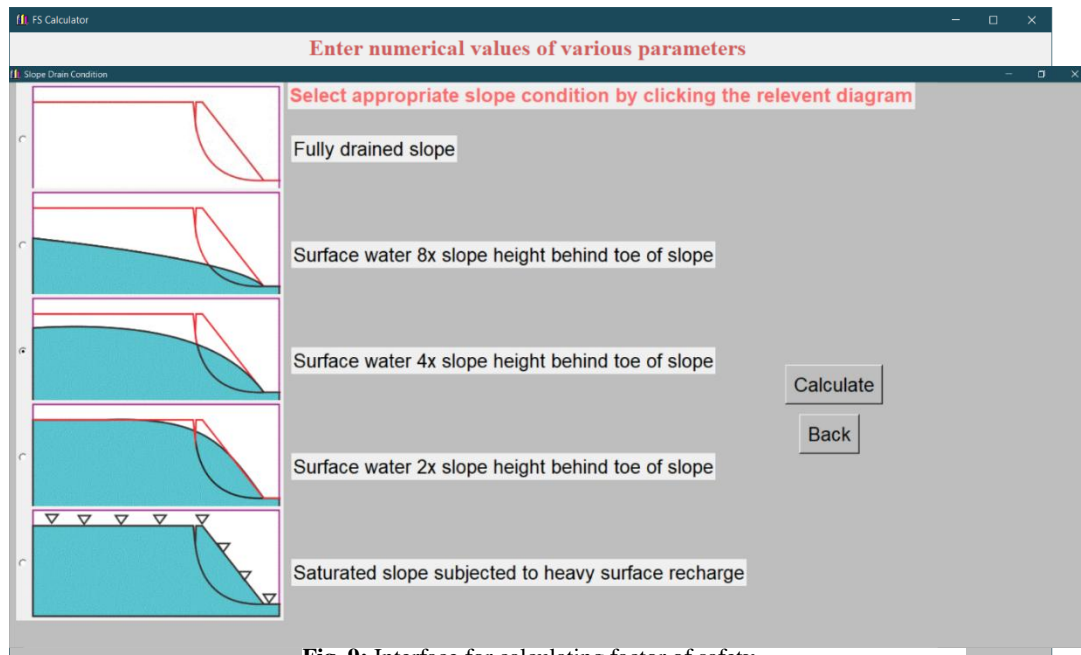

Fig. 10: Slope condition selection window.
3. Then, clicking the Next button, opens the window showing the slope conditions, Fig. 10.